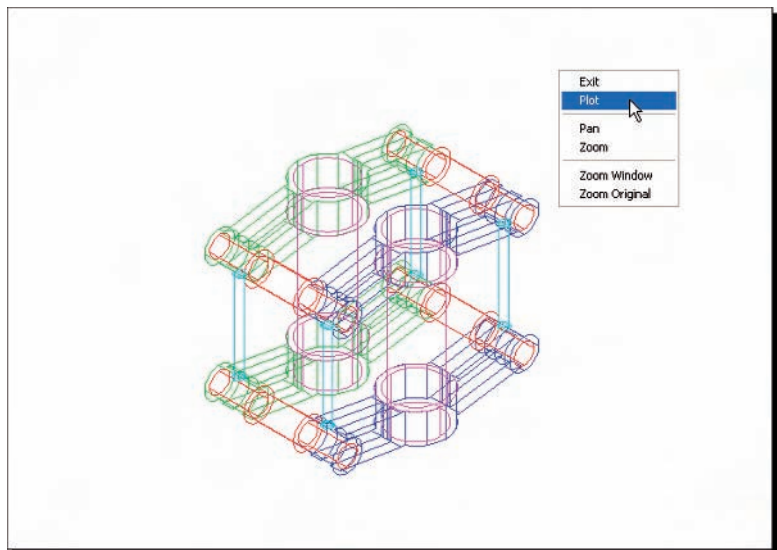

Fig. 20.10 Third example –
Third example – Printing/Plotting (Fig. 20.10)
4. If satisfied with the preview (Fig. 20.10), *right-click* and *click* on **Plot** in the menu which appears. The drawing plots.